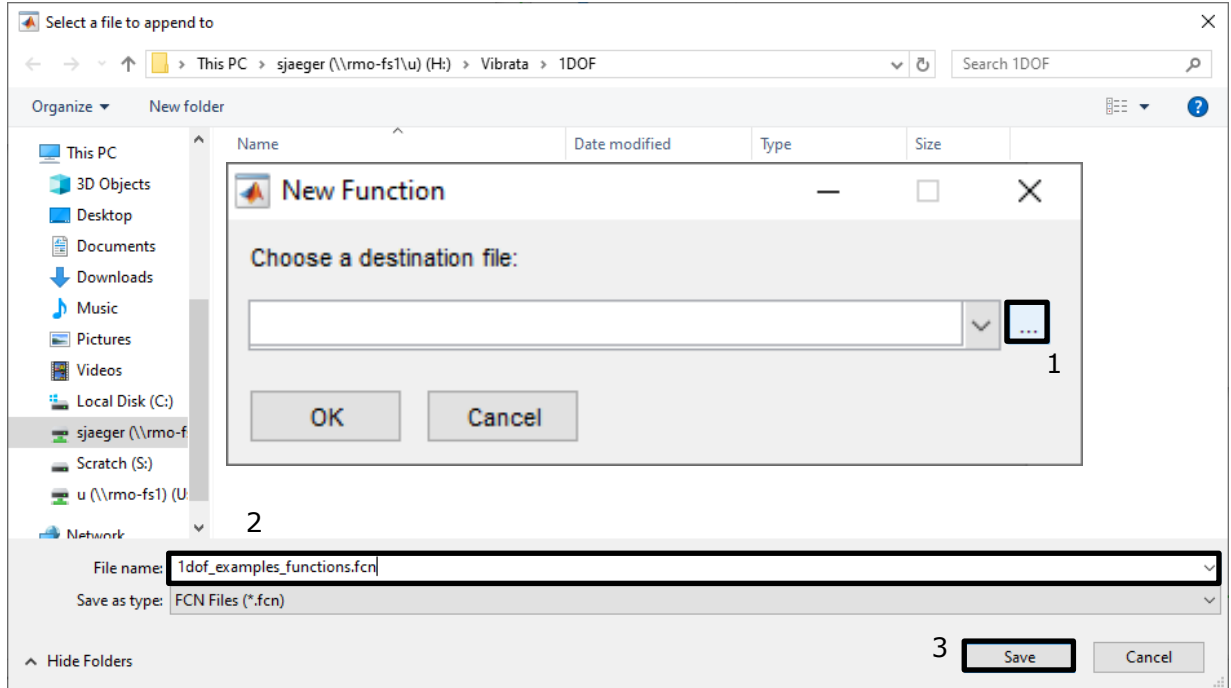

Figure 4-12. Save excitation function to new function file.
- d. Click the **Create** button to save the new function into an *fcn* file. Call this file "1dof\_examples\_functions.fcn" and place it in the 1dof folder (Figure 4-12).